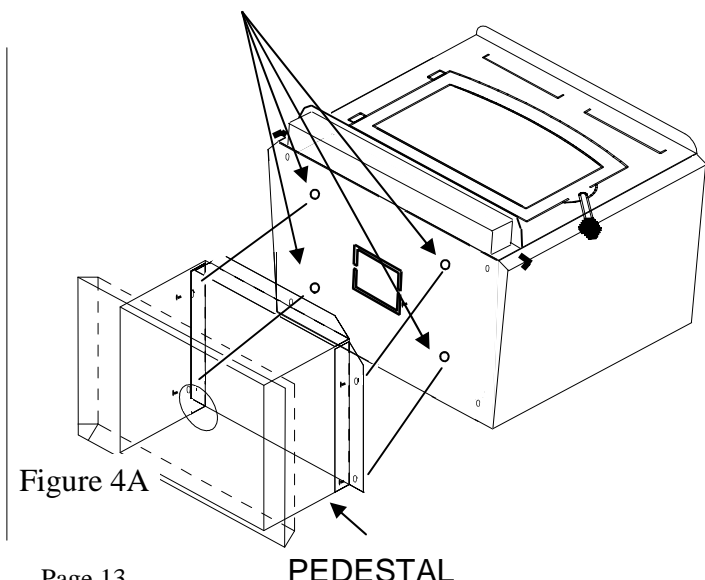

Figure 4A
6. **(Pedestal Kit):** If pedestal kit is being used and **(out side air is required for residential free standing installation (see page 25 Out Side Air Installation))**. Open freestanding kit and obtain stand. Place stand against bottom of heater (angle side to heater). Center stand front to rear and also center stand left and right. Mark screw locations on bottom of stove through outer holes of stand mounting angles. Set stand aside and drill four 7/32" holes in heater bottom. Then mount stand to bottom of heater with screws provided. (See Figure 4A).
7. Obtain four (4) 3/16" self-tapping screws and secure stand to heater.